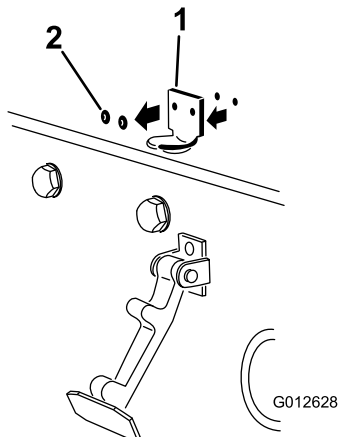

Figure 7
2. Remove the 2 rivets securing the hood-latch bracket to the hood (Figure 7).